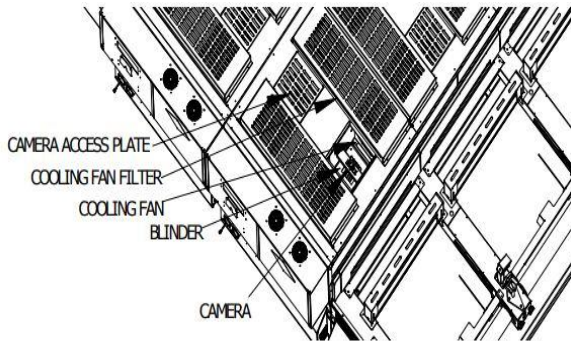

Figure 7: Camera Access
Inspect camera cooling fan filters above main heat sections (Figure 7). Replace as necessary.
- 1) Remove camera access plate (Figure 7)